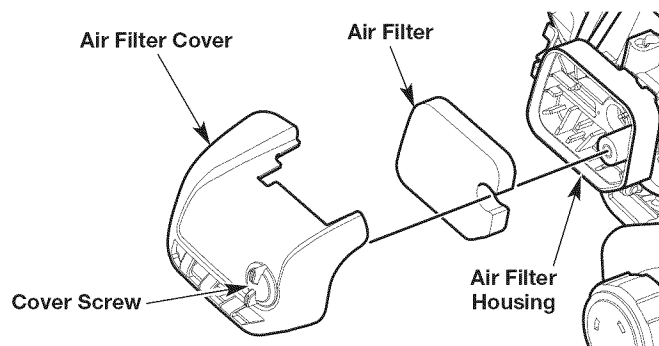

Fig. 22
1. Open the air filter cover by unscrewing the cover screw (Fig. 22).
2. Remove the air filter from the air filter housing (Fig. 22).